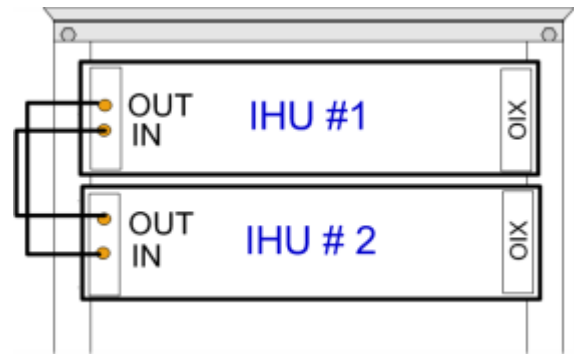

Figure 4-20. Example of Pilot Clock Connections between Two IHU Units
- Referring to Figure 4-20, use the QMA/QMA jumper cables (PCKC47 provided with each RIX) to connect the **REF OUT** and **REF IN** ports of the RIX modules in the IHU chassis.